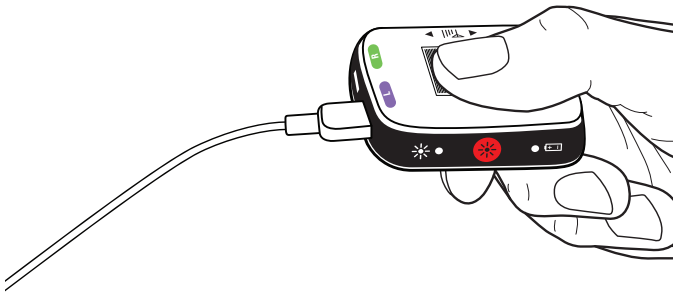

Figure 12. Connecting the O.R. Cable to ETS 3
2. Connect the proximal end of the O.R. Cable Extension to the ETS 3 Port labeled “L” while keeping the distal end of the O.R. Cable within the sterile field (Figure 12).